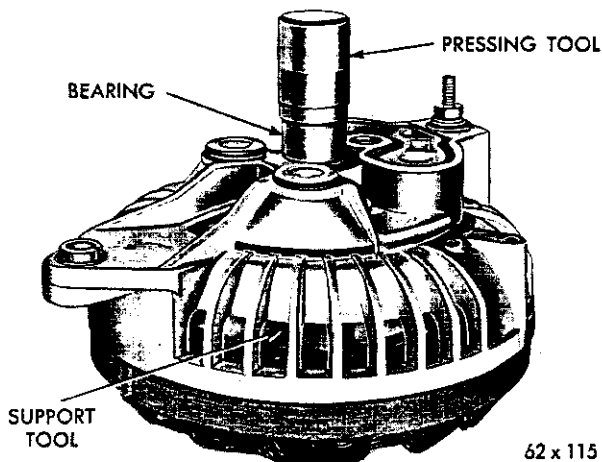

Fig. 74—Installing the Rectifier End Shield Bearings
(5) Support the end shield on Tool SP-3383 so that the notch in support tool will clear the raised section of the heat sink and press the bearing into position with Tool SP-3381 (Fig. 74).